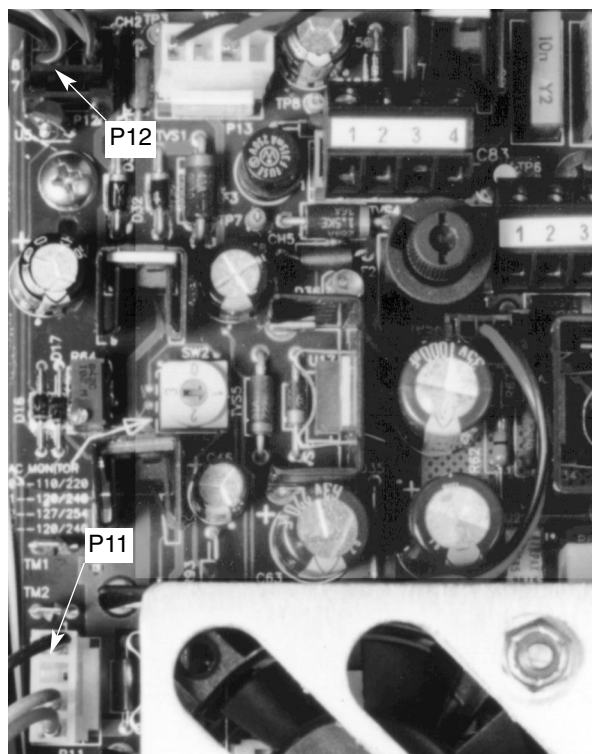

Figure 23.
Terminal P11, located on the ac supply board, (Figure 23) contains three test points to verify the status of the board. The proper voltage across each of the three test points of P11 is listed below:
6. Disconnect terminal P12 located at the top of the ac supply board (Figure 23).